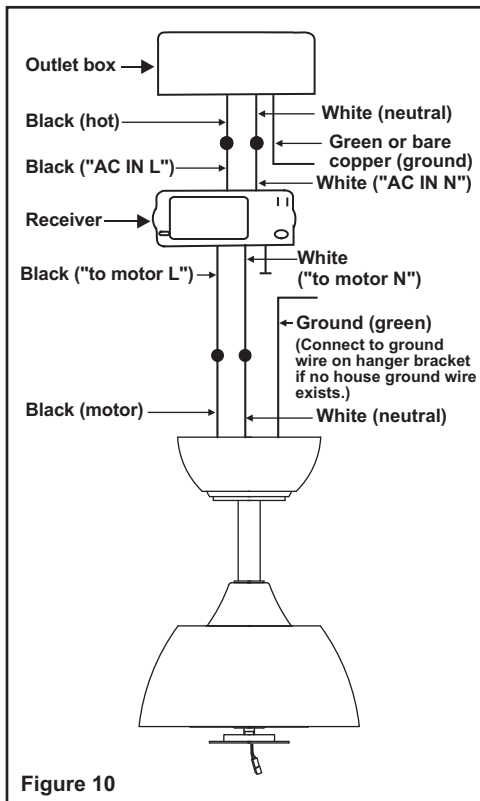

Figure 10
Step 2. (Fig. 10) Motor to Receiver Electrical Connections: Connect the Black wire from the fan to Black wire marked "TO MOTOR L". Connect the White wire from the fan to the White wire marked "TO MOTOR N" from the receiver. Secure wire connections with the plastic wire nuts provided.
Step 3. (Fig. 10) Receiver to House Supply Wires Electrical Connections: Connect the black (hot) wire from the ceiling to the black wire marked "AC in L" from the receiver. Connect the white (neutral) wire from the ceiling to the white wire marked "AC in N" from the Receiver. Secure the wire connections with the plastic wire nuts provided.
Step 4. (Fig. 10) If your outlet box has a ground wire (green or bare copper) connect it to the fan ground wire to the mounting bracket. Secure the wire connection with a plastic nut provided. After connecting the wires spread them apart so that the green and white wires are on one side of the outlet box and black and blue wires are on the other side. Carefully tuck the wire connections up into the outlet box.